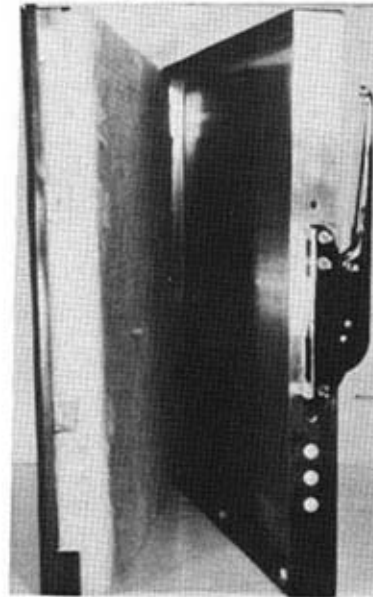

FIG 11
2. Remove the eight (8) screws (CC16 models), 10 screws (CG15 and CB21 models), or 14 screws (CB53 models) securing inner door panel to outer door panel and remove insulation. Save insulation and screws for reuse (See Figure 11).